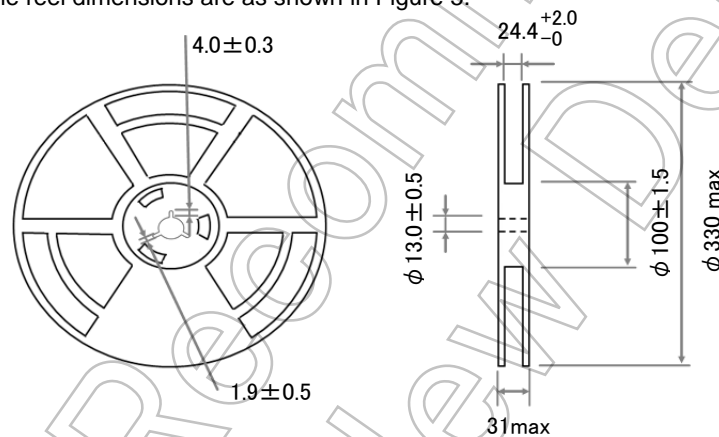

Figure 5 Reel Forms
(2)Dimensions: The reel dimensions are as shown in Figure 5.